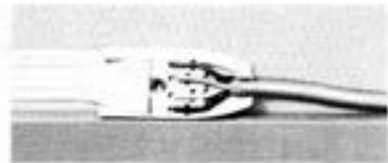

Fig. 10—Terminating Wire in No. 721 Transition
- (1) Remove paper liner from back of transition.
- (2) Select location and press adhesive side of transition to mounting surface.
- (3) Remove cover.
- (4) Place B station wire in channel, butting end of wire against center stop (Fig. 10).
- (5) Remove approximately 3/4 inch of outer jacket from the D station wire. Insulation from individual conductors need not be removed. Match each conductor with the 3 station wire for correct polarity (Fig. 1) and place in wire grooves in base of transition (Fig. 10).
- (6) Place cover and tighten screw until cover is seated to base of transition.